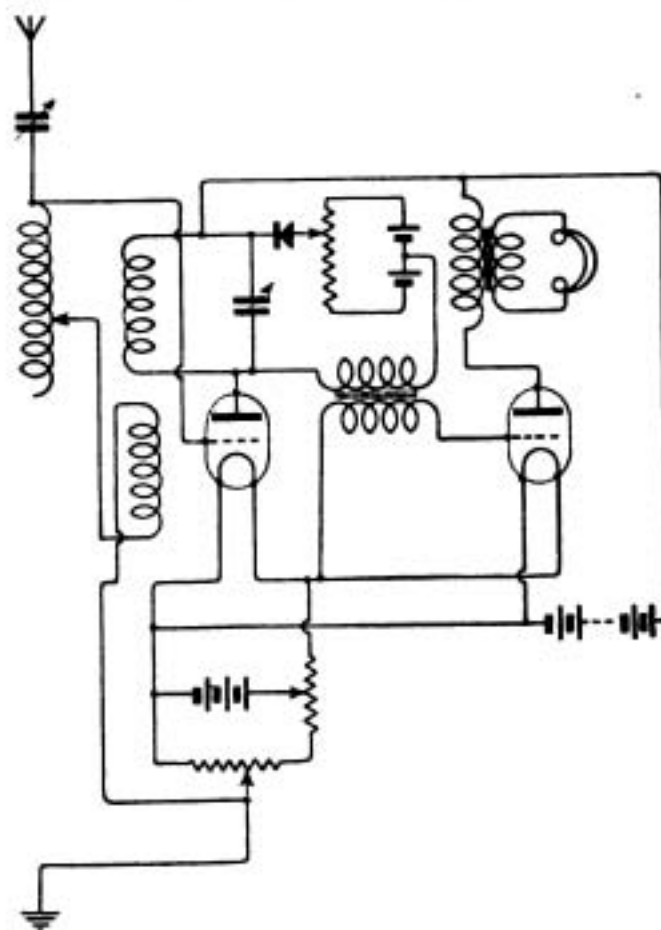

Fig. 3.
A.S.H. (Chelsea).—(1) The circuit is all right as shown, provided that the negative side of the H.T. battery is earthed, and not the positive, as shown in your sketch.
(2) Both are desirable, but of the two the grid potentiometer is the less essential.
(3) Fig. 3.
C.H.N. (Portland).—(1) The set shown in the cut submitted appears to be of quite good type, and should give fairly satisfactory results. Of course, on such a small aerial, signals will not be very strong with a crystal. If possible, increase the length of the aerial.